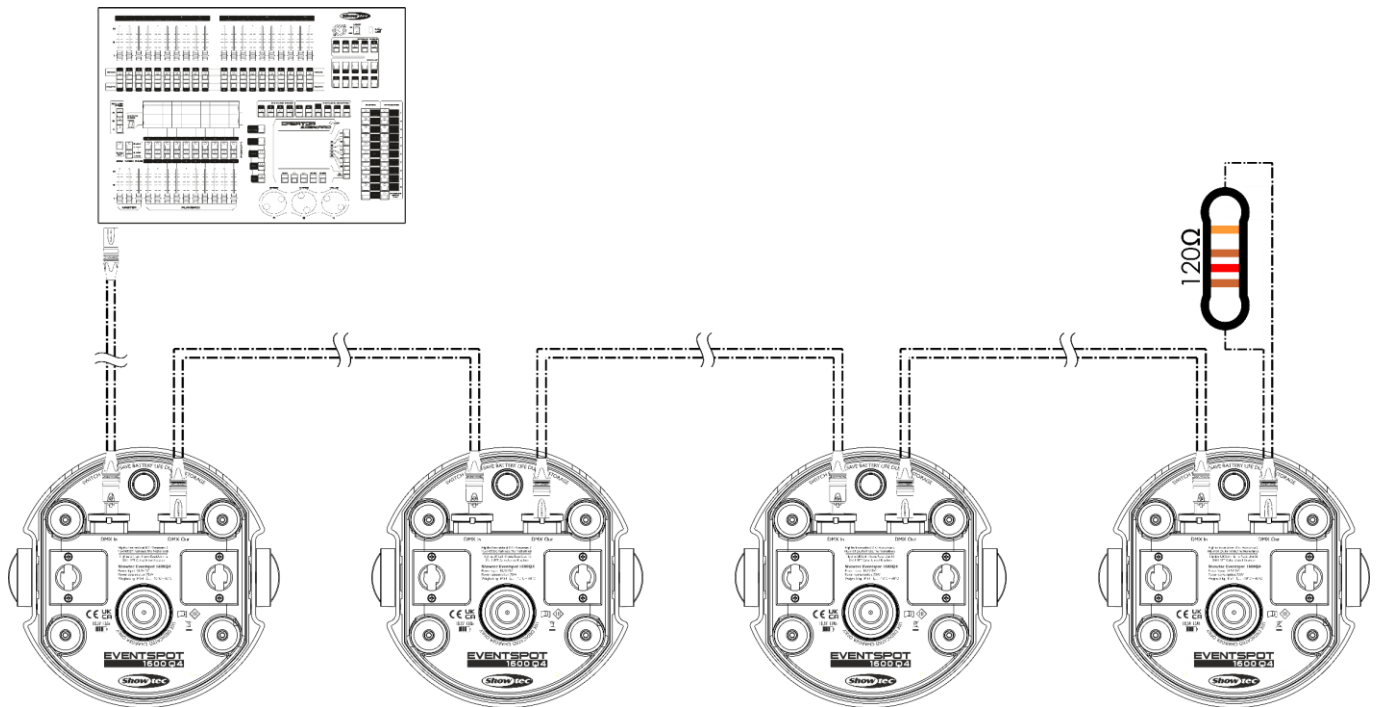

Fig. 06
- 03) Link the units as shown in (Fig. 06). Connect a DMX signal cable from the first unit's DMX "out" socket to the second unit's "in" socket. Repeat this process to link the second, third and fourth units.